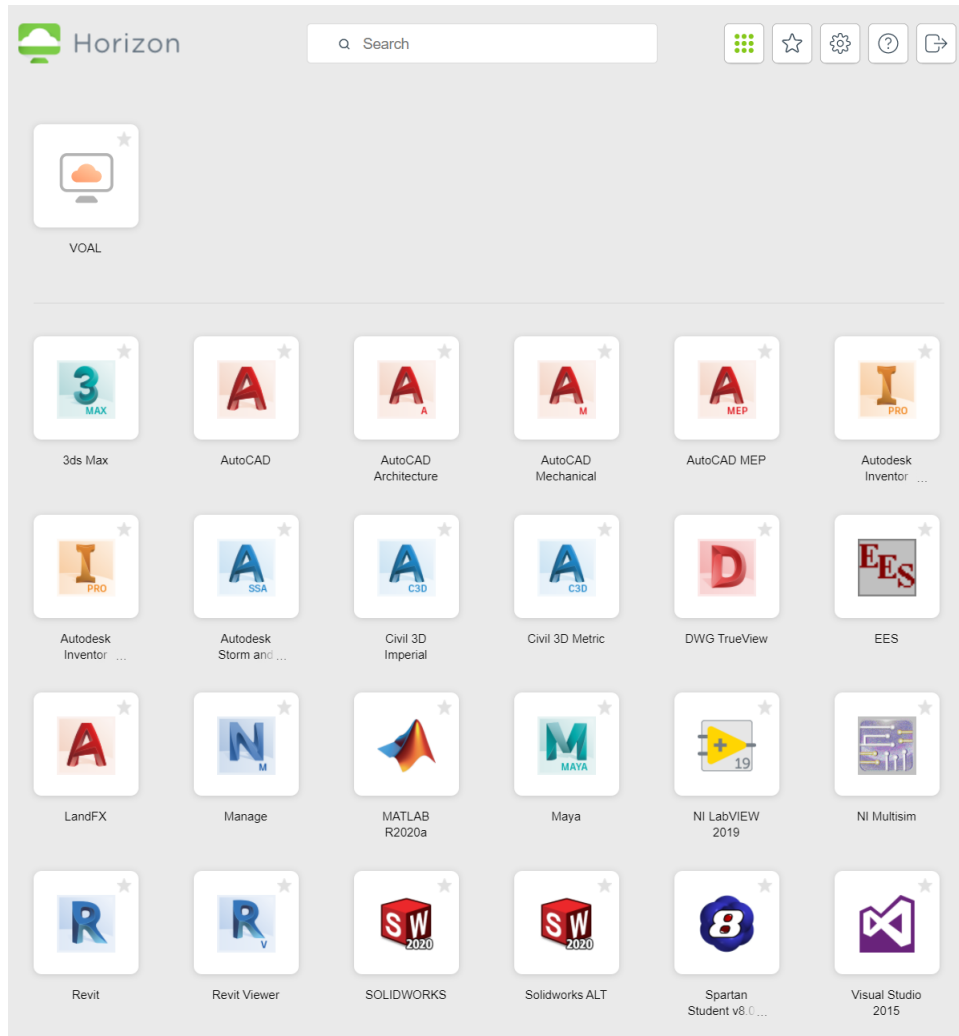

Figure 2: VMware Horizon Web Portal
- Click on "NI MultiSim" on the next page (Fig. 2)